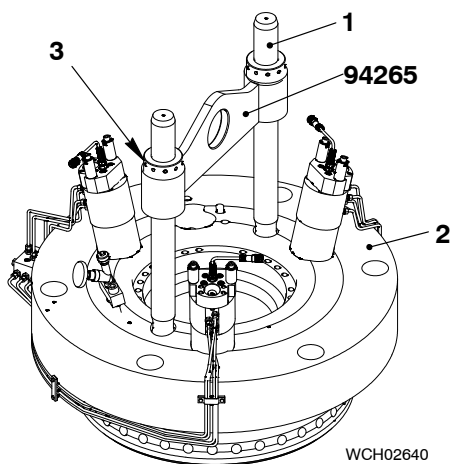

Fig. 5
- 19) Attach the tool (94265, Fig. 5) to the cylinder cover as shown.
- 20) Attach the round nuts (3) to the elastic studs. Tighten the round nuts.
- 22) Operate the engine room crane to move the cylinder cover (2) to an applicable area.